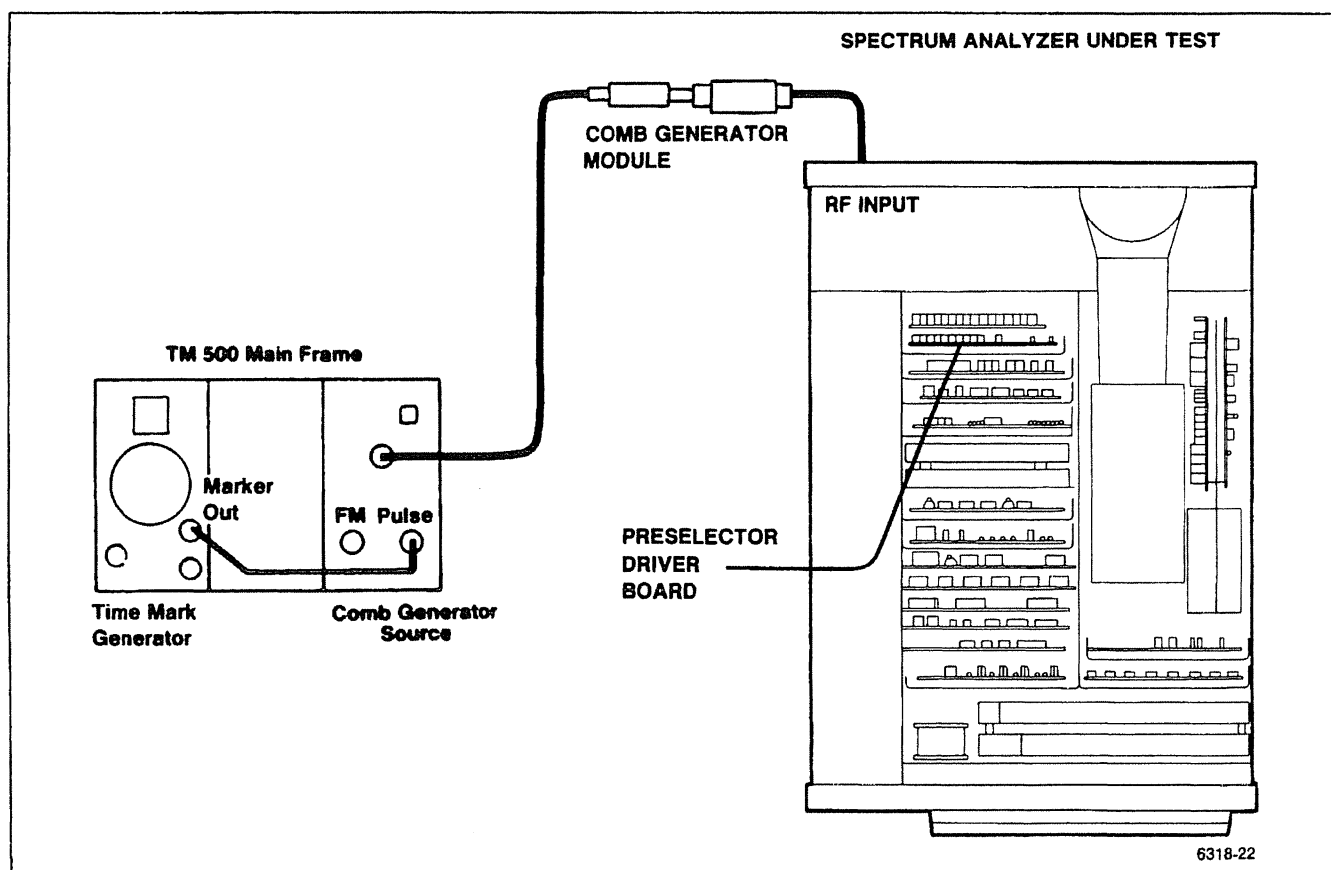

Figure 5-21. Preselector Driver adjustment setup.
- Connect the test equipment as shown in Figure 5-21.